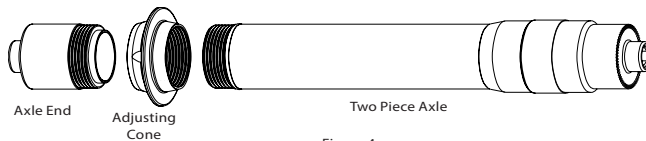

Figure 4
The two piece axle uses an adjusting cone to adjust bearing preload and an axle end to lock the preload adjustment. Hubs that are factory assembled with the two piece axle include: ISO front, Universal Disc front, and Universal Disc 140mm rear. Two piece axle disassembly, reassembly and adjustment procedures can be found on pages 6, 10 and 11. The two piece axle design (see Fig. 4) is designed for a skewer-type retention device and must not be modified or altered to accept any type of bolt-on retention device.
- Chris King front ISO hubs are designed to work with 100mm and 110mm fork drop out spacing. Do not attempt to use your hub with any other dropout spacing. The two piece axle design (see Fig. 4) is designed for a skewer-type retention device and must not be modified or altered to accept any type of bolt-on retention device.
The earlier two piece axle (see Fig. 4) is designed for exclusive use with a skewer-type retention device and the hub can only be used with FunBolts by replacing the two piece axle with the one piece axle. Do not modify or alter two piece axle systems to accept thru-bolt retention devices.